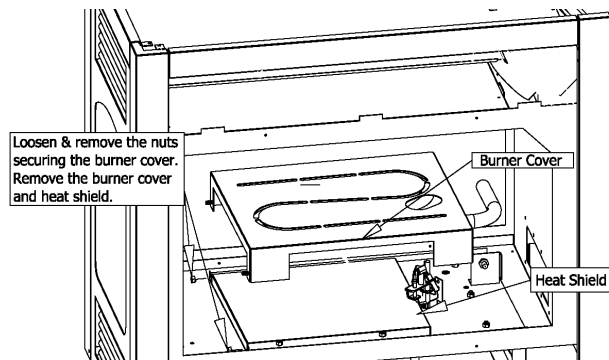

Figure 12A
1. Loosen and remove the (2) 1/4" nuts securing the burner cover. Remove the burner cover and heat shield. Refer to page #19, Figure 12A.
MILLIVOLT BOARD REMOVAL / INSTALLATION. See Figures 12A & 12B.
5. Loosen and remove the (2) 1/4" nuts securing the burner cover. Remove the burner cover & heat shield. Figure 12A.
4. Replace the burner cover aligning the studs in the cover to the corresponding slots. See Fig. 12A.